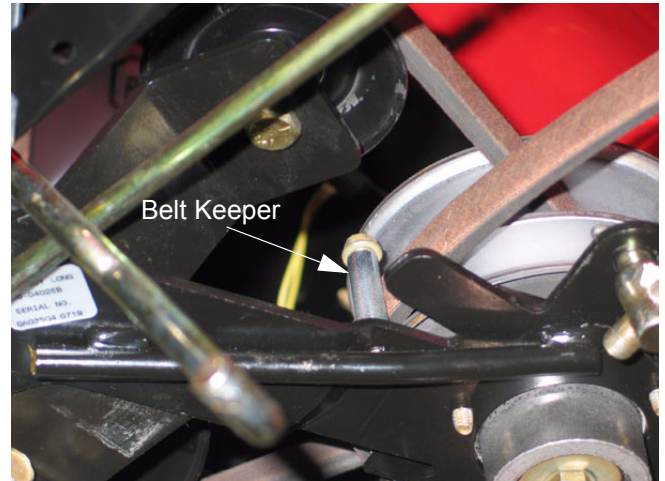

Figure 11.8
- 11.8. Remove the belt guide from the variable speed pulley bracket using a 1/4" socket. See Figure 11.8.